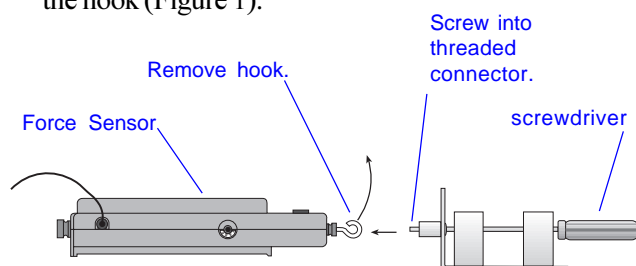

Figure 1
1. Remove the hook from the end of the Force Sensor. Use a small screwdriver to connect the Rocket Engine Test Bracket to the Force Sensor in place of the hook (Figure 1).